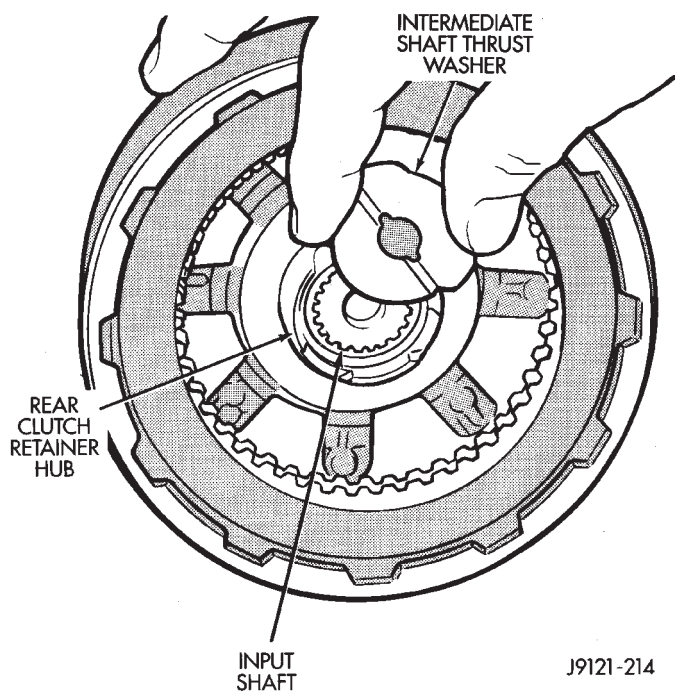

Fig. 96 Removing Intermediate Shaft Thrust Washer
(24) Remove intermediate shaft thrust washer from front end of shaft or from rear clutch hub (Fig. 96).